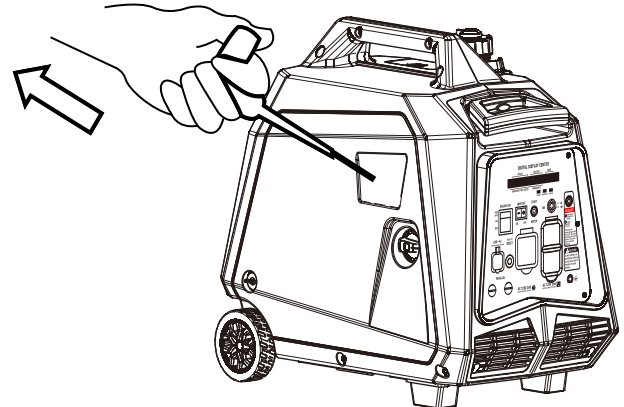

Figure 6: Pull the Recoil Handle out from Inverter
4. Firmly grasp and pull the recoil handle slowly until you feel increased resistance. At this point, apply a rapid pull while pulling out from the inverter. Pull the Recoil Handle out from Inverter (see Figure 6).